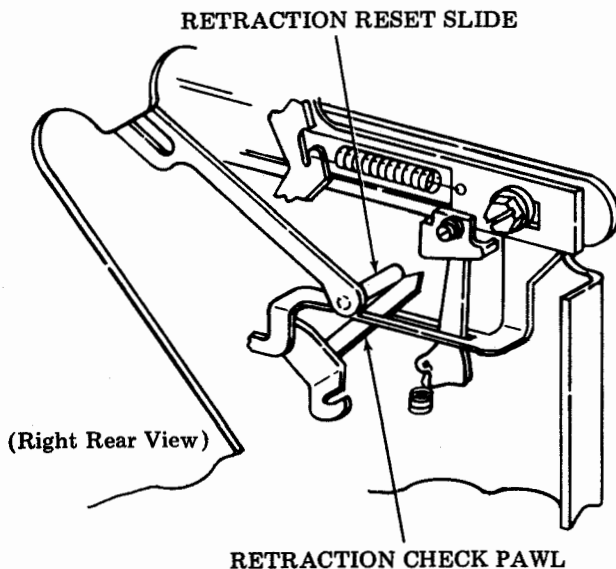

Figure 7 - Retraction Slide and Check Pawl
- (3) View the left side of the typing unit and check the position of the retraction reset slide and the retraction check pawls in the retraction mechanism. The retraction reset slide shall be positioned in front of the retraction check pawls. Correct position is shown in Figure 7. If corrective action is required, move retraction reset slide out and around to the front of the check pawl.